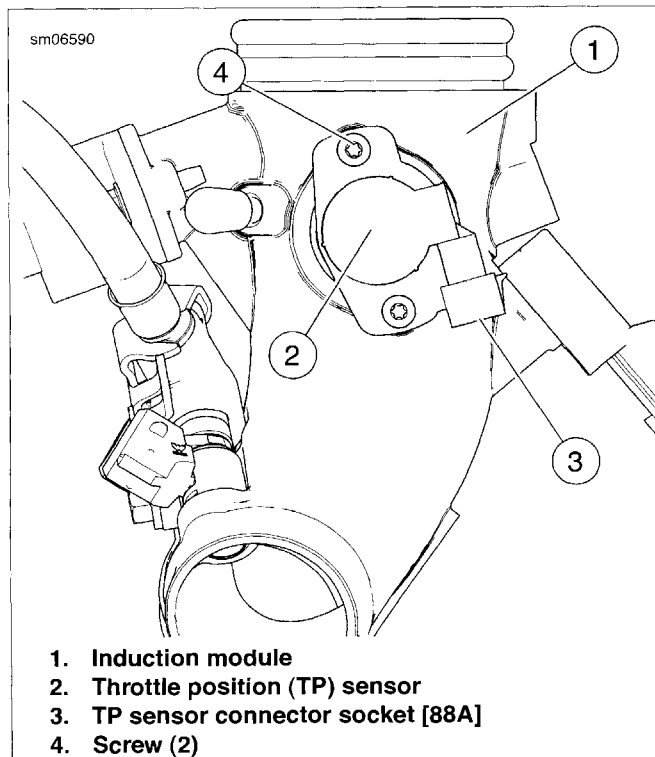

Figure 4-29. Throttle Position (TP) Sensor Removal (XR Models)
4. See Figure 4-29. Remove induction module from vehicle. See 4.10 INDUCTION MODULE: XR MODELS.
5. Remove two screws (4) and detach TP sensor (2) from induction module (1).
- See Figure 4-29. Note installed orientation of TP sensor (2) relative to induction module (1) body; connector socket is at approximately the 5:00 o'clock position.
2. Rotate the TP sensor counterclockwise into position as shown in Figure 4-29.
3. Make sure TP sensor body is flush against mounting boss on induction module body. Install two screws (4). Tighten to 29 in-lbs (3.3 Nm).